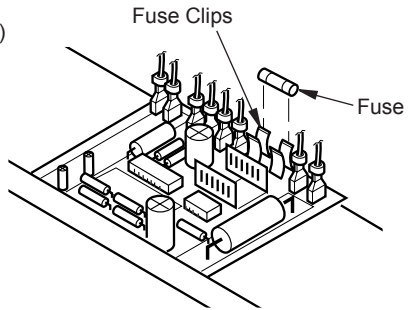

Figure 22 - Replacing Fuse
2. Remove side cover screws (4) using 5/16" nut-driver to expose ignition control assembly.
3. Remove fuse from fuse clips (see Figure 22).